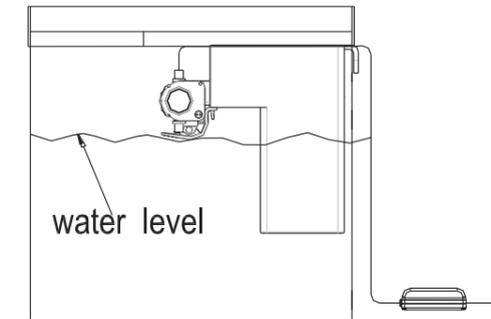

Fig.1
3. Clip this UV sterilizer to the water outlet of Power filters to start sterilization (Refer to Fig.1)